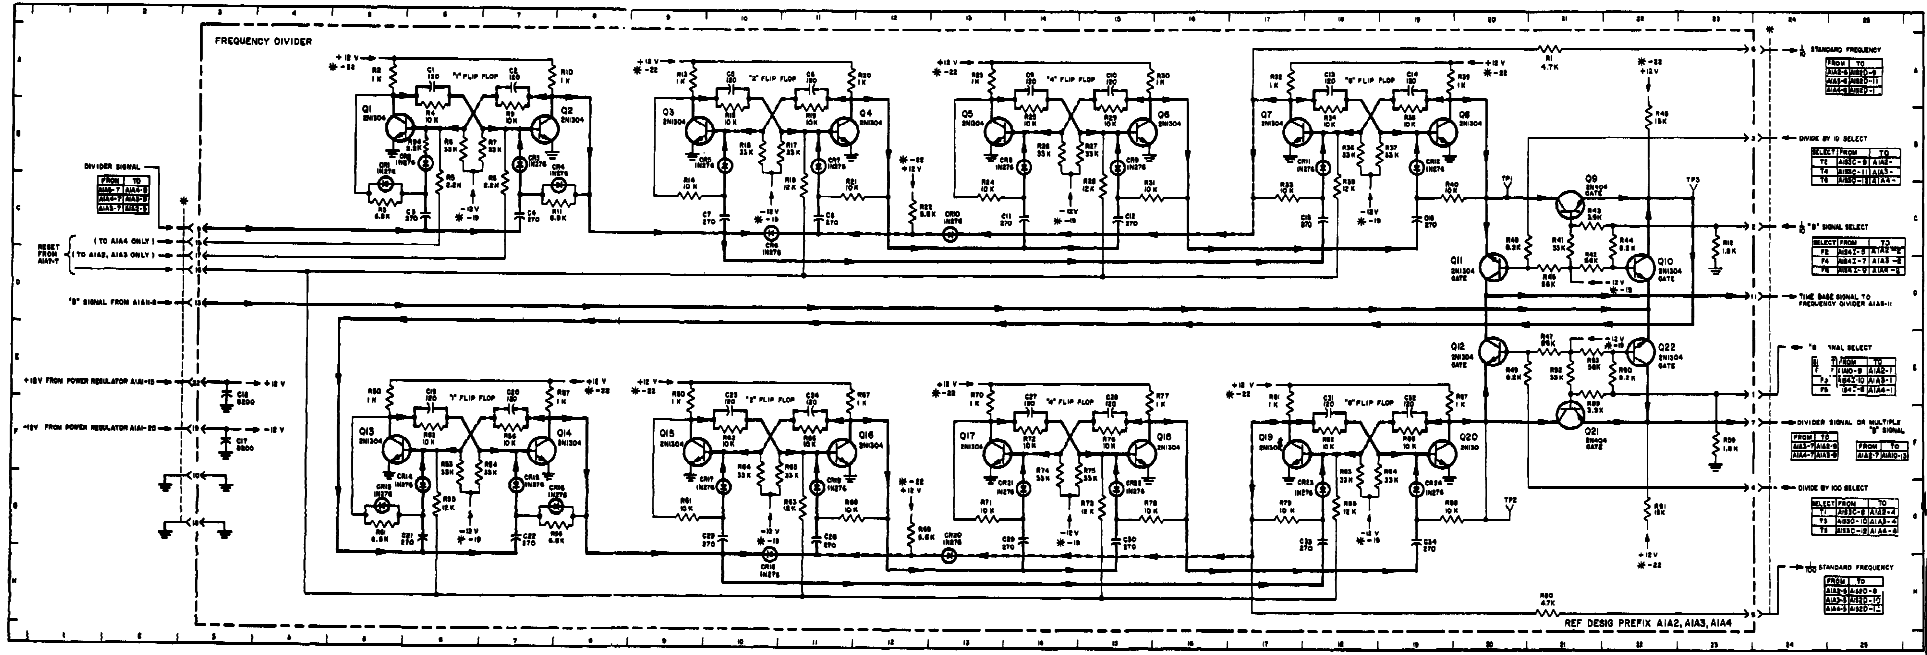

Figure 5-68. Scalar, Frequency Dividers A1A2 through A1A4, Schematic Diagram
- Assemblies A1A2, A1A3, and A1A4 are identical and are all represented by figure 5-68.